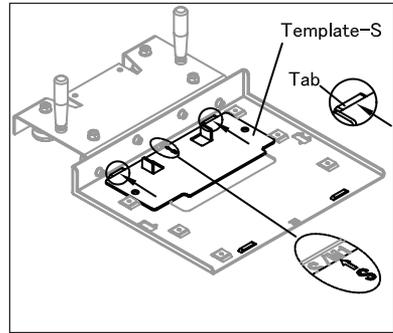

Figure 1
1. Place Template-S on the Carriage Base location marked “S / M1”, making sure that the Template-S makes contact with both tabs on the Carriage Base. (See Figure 1)